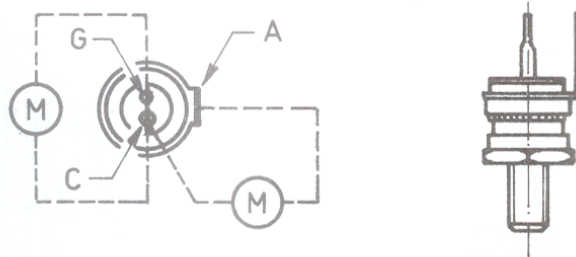

FIGURE 1b
- 12.4.4 If main input fuses 10FU and/or 14FU blow (14FU only provided on 230V controls), the problem may be defective SCRs. Temporarily disconnect the connection to the two discrete SCRs, or the power cube module on 1.9 HP controls, and check the SCRs. Refer to Sections 14.2 and 14.3, and also Figures 1b and 1c. Replace defective SCRs.
The discrete SCRs are isolated stud devices. The red wire to each device is the anode. The yellow wire is the cathode and the green wire is the gate. Simple tests with an ohmmeter cannot conclusively show that an SCR is good, but shorted or open SCRs can be detected. Check one SCR at a time by removing the 3 leads of the SCR connected to the E1508 PC board. Reconnect the three leads which are color coded to the PC board before proceeding to check the other SCR. Refer to Figure 1b.